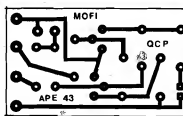

Fig.6
- FIG. 6 - LAY OUT DO IMPRESSO DO MÓDULO FILHO (MOFI)